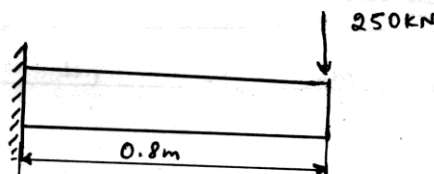

Fig Q5(b)
- b. A cantilever beam subjected to point load of 250 kN as shown in Fig Q5(b). Determine the deflection at free end. Take $E = 200 \text{ GPa}$, $I = 4 \times 10^6 \text{ mm}^4$.